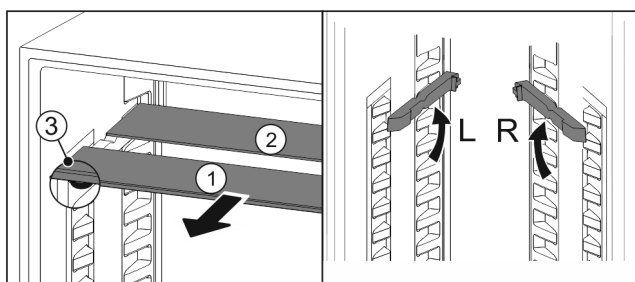

Fig. 29
- Pull the glass panels out Fig. 29 (1) from the front, one at a time.
- The glass panel Fig. 29 (1) and trim strip are at the front.
- The stops Fig. 29 (3) point down.